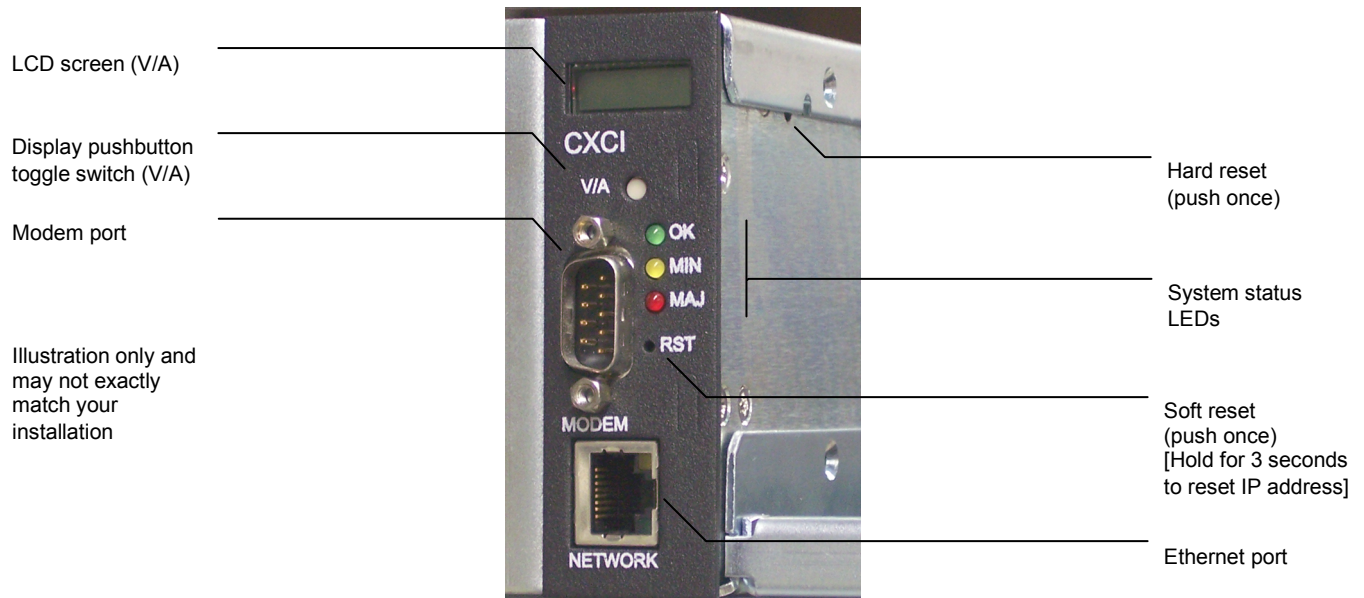
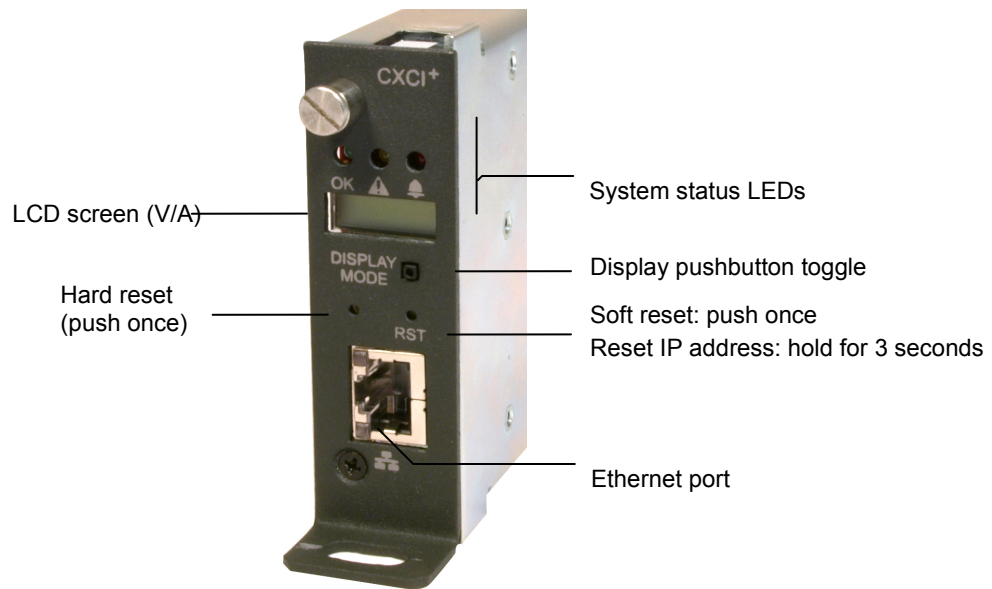

Figure 2—Cordex CXCI model system controller front panel
Figure 3—Cordex CXCI+ model system controller front panel
The CXCI (Figure 2) and CXCI+ (Figure 3) controllers have a 4-digit display for monitoring system voltage (V) and current (A). A pushbutton switch toggles the display between the V and A readings.
The Ethernet port is designed for CXCI/ CXCI+ connection to a user supplied network (TCP/IP secured by user) via a front panel RJ-45 jack (Figure 2) and a standard network cable.